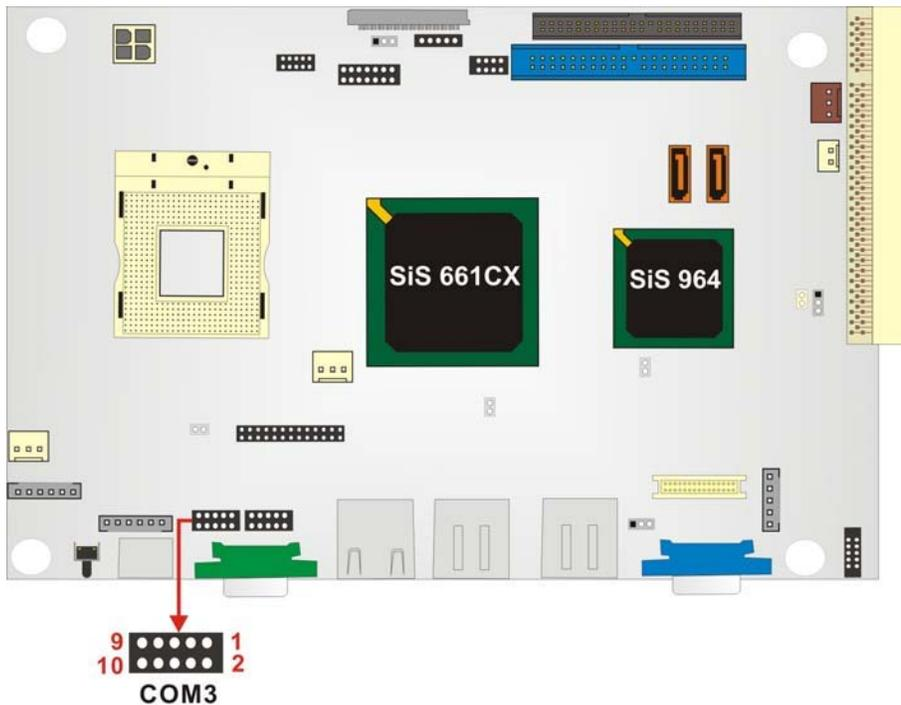

Figure 3-20: Serial Port3 Connector Pinout Locations
- CN Location:** See Figure 3-20